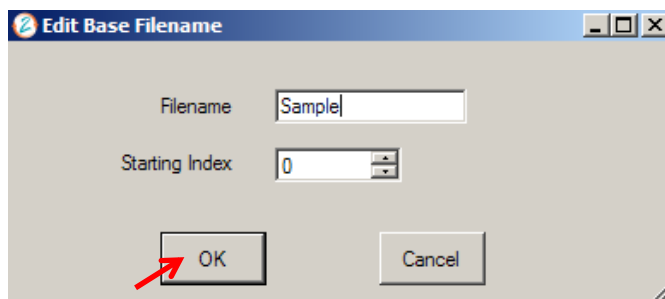

Figure 3-62: New base filename
- Step 13 Type in a base filename, such as "Sample" (Figure 3-62). Select OK.